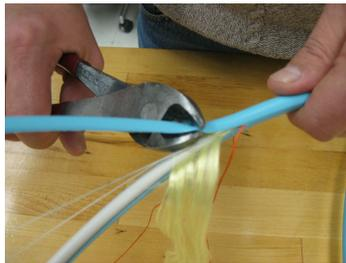

Figure 4 – Removing the outer jacket.
4.5 Fold the outer jacket back and remove by cutting away the two pieces. (Figure 4).